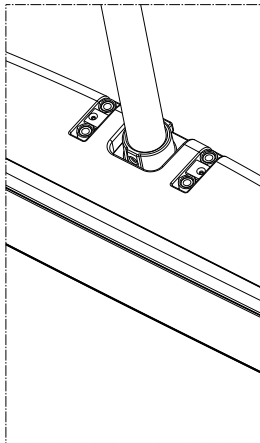

Figure 10 - LCR Speaker Position Adjustment
- b. Loosen the four allen screws on the top of the LCR speaker and around the pole as shown in figure 10, once these screws have been loosened you may move the LCR speaker forward to the desired position.